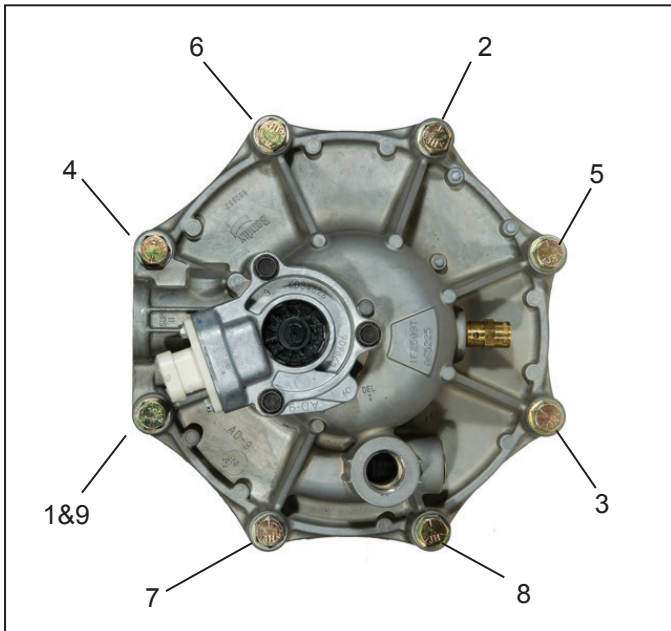

Figure 13 – End Cover to Housing Torque Pattern
2. Install the end cover outer housing o-ring on the shoulder in the end cover. Place the housing over the desiccant cartridge and align the holes. Install the six 3/8" cap screws, locknuts, and twelve special washers, making certain they are in the proper position as marked during disassembly. The two longer 3/8" cap screws will be used to secure the air dryer to its mounting bracket. Tighten the six cap screws and nuts in a star pattern in a fashion similar to Figure 13; depending on the lower bracket location. Torque to 270-385 in-lbs.